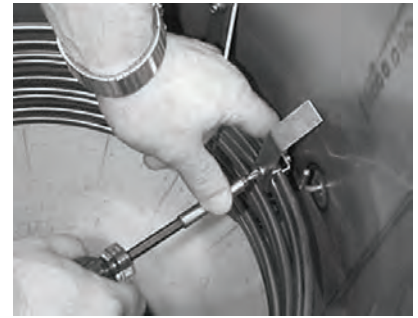

Figure 12
- A. Position probe guard (item #3, page 3) 1/2" to the left (as viewed from rear of fryer) of probe tip and secure to clamp along the top two heater coils (see figure 12).